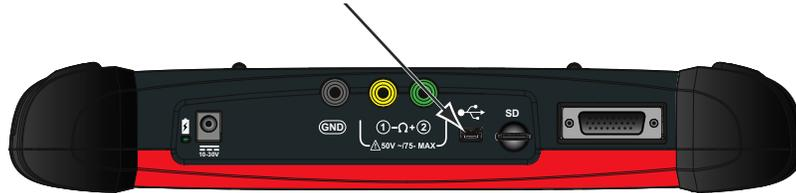

Figure 2-7 Sample MODIS Ultra USB port location
- MODIS Ultra—mini A USB port on top of the unit (Figure 2-7).